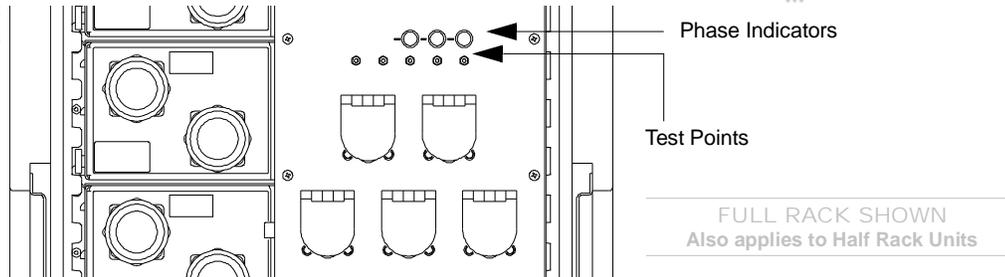

Figure 2-10: Phase Indicator and Test Point Locations
- Step 2. At rear of rack, verify all phase indicators are lit (**Figure 2-10**).
- Step 4. If meter readings are normal, turn rack ON by pressing green Master Switch button (**Figure 2-10**).
- Step 3. At rear of rack, verify all phase indicators are off (**Figure 2-10**).